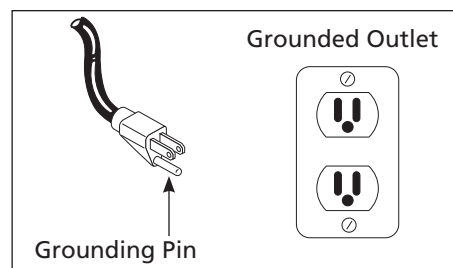

Figure 2 - Grounding Method
3. This product is for use on a nominal 120 volt circuit and has a grounding plug that looks like the plug illustrated in Figure 2.